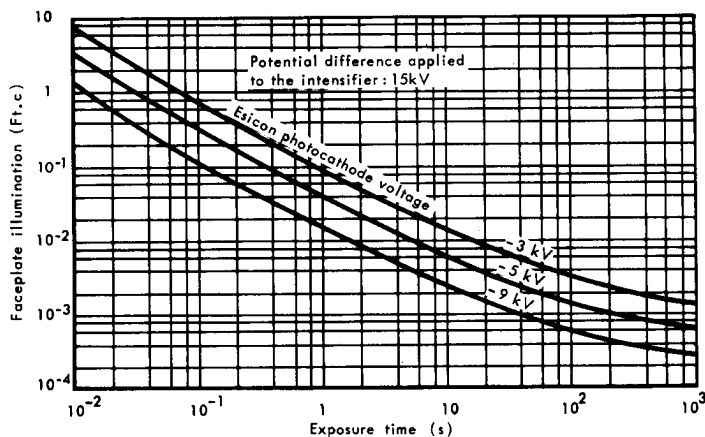

Fig 1 - Maximum exposure levels.
- 4 - The tube should not be operated at exposure levels greater than those given in figure 1*.